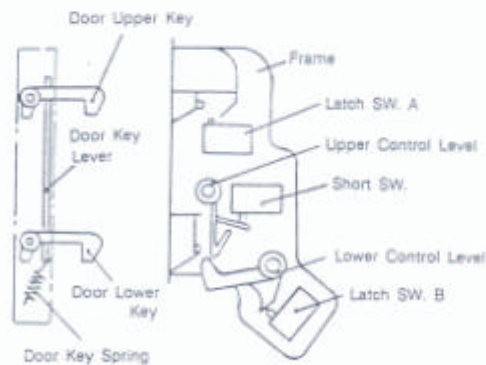

Fig. 11.1
- When mounting the latch SW. A, B and short SW. to the frame assembly, mount the latch SW. A, B and short SW. to the frame assembly as shown in Fig. 11.1. (No specific adjustment during installation of latch SW. A, B and short SW. the frame is necessary.)